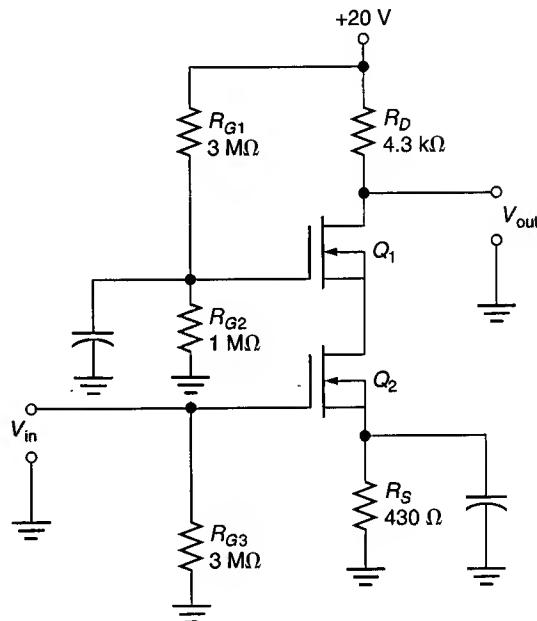
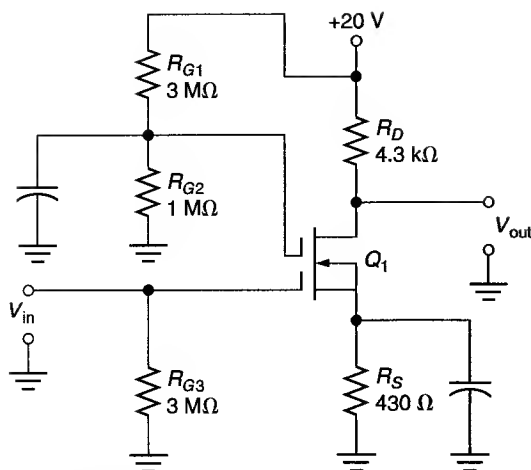

FIGURE 13.25 Cascode amplifier.
FIGURE 13.26 Dual-gate MOSFET cascode amplifier.
Both JFETs and MOSFETs have relatively high input capacitances, as stated earlier. These input capacitances can adversely affect the high-frequency operation of the components. To overcome the effects of high input capacitance, the **cascode amplifier** was developed. The cascode amplifier consists of a common-source amplifier in series with a common-gate amplifier, as shown in Figure 13.25.
Q_1 in Figure 13.25 is a common-gate amplifier that is voltage-divider biased. Q_2 is the common-source circuit and is self-biased. The input to the circuit is applied to Q_2 , and the output is taken from the drain of Q_1 . Therefore, the two MOSFETs are in series.
A simple cascode amplifier can be constructed using a dual-gate MOSFET. The dual-gate MOSFET equivalent of Figure 13.25 is shown in Figure 13.26. Gate 1 of the MOSFET is connected to act as a common-gate amplifier, while gate 2 is connected to act as the common-source amplifier. This amplifier has the same capacitance characteristics and high-frequency capabilities as those of the amplifier in Figure 13.25.
- a. A cascode amplifier has a common-source circuit directly wired to a common-gate circuit (see Figure 13.25).
- c. A dual-gate MOSFET can be wired as a cascode amplifier (see Figure 13.26).